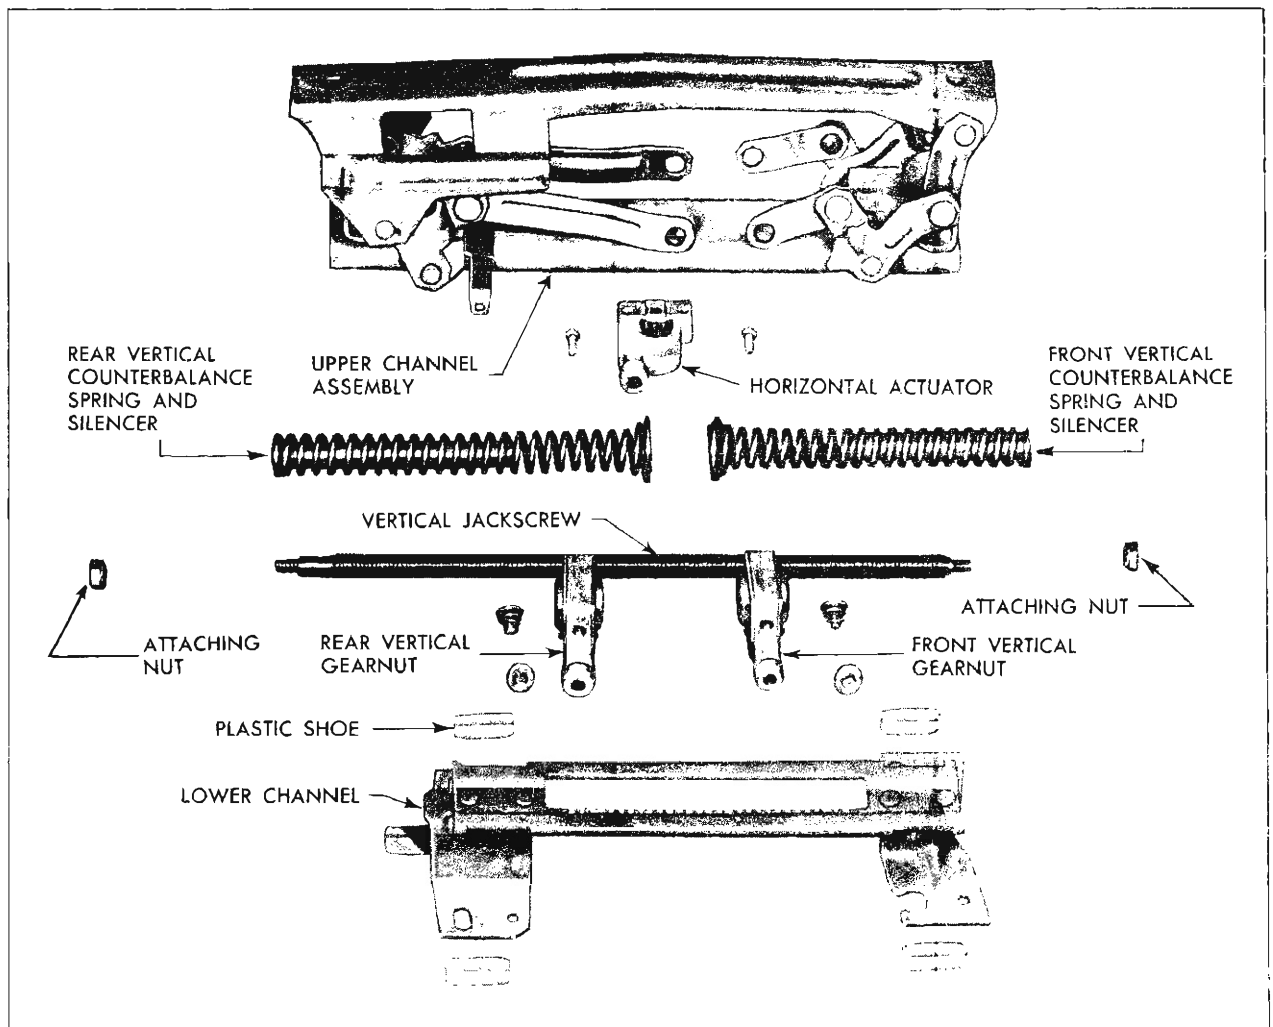

Fig. 8-9 Six-Way Seat Adjuster
9. Disengage rear end of jackscrew from support and remove jackscrew with gear nuts and spring from adjuster. Rear assist spring and silencer may now be removed from jackscrew (Fig. 8-9).